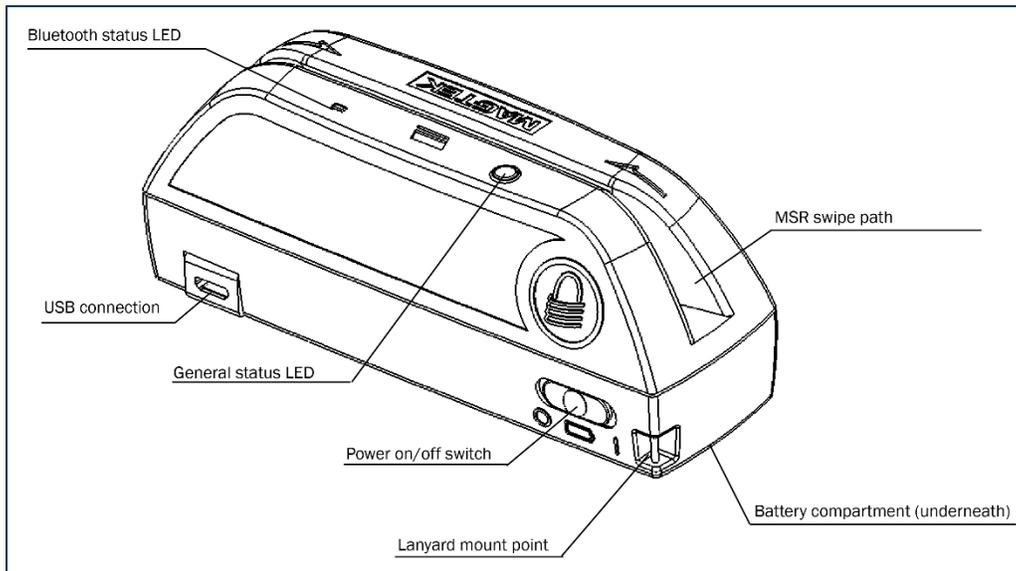

Figure 1-1 – DynaPro Mini Major Components
The major components of DynaMAX are shown in **Figure 1-1**.
- When the device is connected to a host via USB, it receives power from the host’s USB port. In this mode, use the power switch (see **Figure 1-1**) to power on the device.
- When the device is not connected to a computer via USB, it uses two disposable alkaline AA batteries as its primary power source. In this mode, use the power on/off switch (see **Figure 1-1**) to power on the device and the embedded Bluetooth transmitter. The batteries must be periodically replaced: When the batteries need to be replaced, the General Status LED will turn red for one second after a card is swiped. When the batteries are too discharged to power the device, the device will not respond to swipes. In either case, install new batteries by following the steps in section **2.3 How to Install Batteries**.
- 3) Use your finger to squeeze the release tab on the battery cover (see **Figure 1-1**), and remove the battery cover.